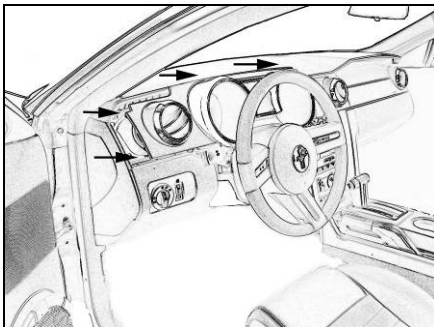

Figure 1
- A. Tilt the steering wheel down to its lowest position and remove the Dash Trim from around the cluster by pulling directly outward on the panel (see figure 1). Carefully slide the Panel out from behind the steering wheel and set aside.